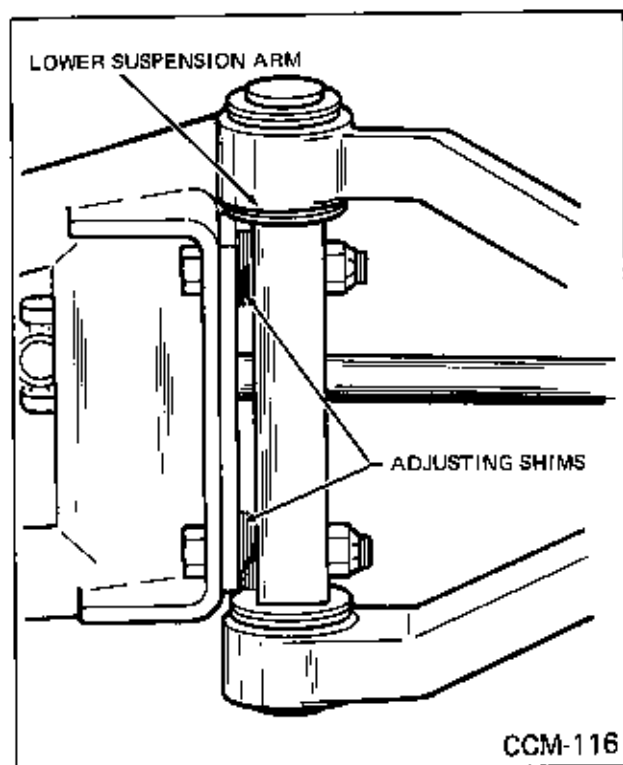

Fig. 111 Camber Adjustment
8. Adjust camber by shimming between the lower suspension arm and the frame at the mounting bolts with equal thickness shims (Fig. 111) to obtain  $3/8$  degree positive